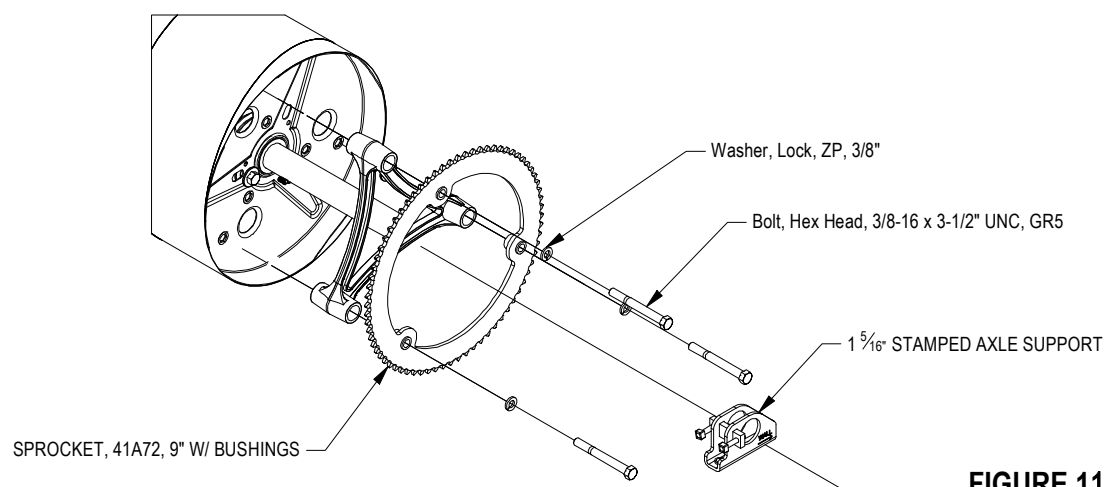

FIGURE 11: ELECTRIC OPERATOR
- ▶ Attach Support Spacer and Spocket to drum using (3) $\frac{3}{8}$ " lock washers and $\frac{3}{8}$ -16 x 3- $\frac{1}{2}$ " Hex bolts.
- ▶ Tighten 3/8" - 16 square head set screws when in place. *See Figures 11.*